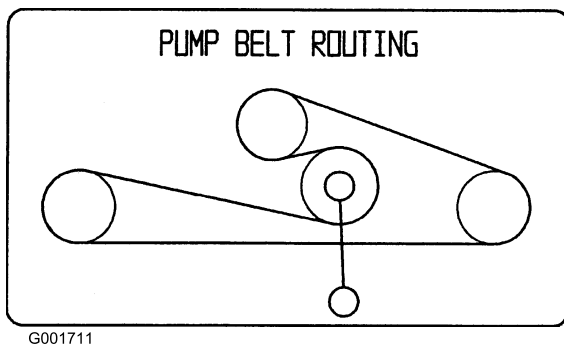

Figure 62
- Pull the spring loaded idler down and remove traction belt from the engine and hydro pump pulleys (Figure 62). Remove belt between pulleys.
3. Install new belt around engine and hydro pump pulleys (Figure 62).
4. Pull spring loaded idler down and align below traction belt. Release the pressure on the spring loaded idler (Figure 62).